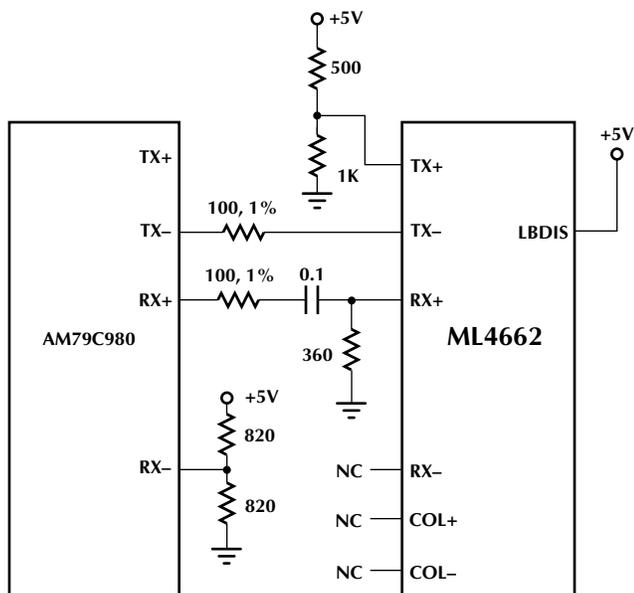

Figure 9. Interfacing the ML4662 to the AMD Repeater
- Link test pulse should not be sent to the ML4662. Since the link test pulses does not get generated on the TXD- of the IMR chip, this pin drives the TX- of the ML4662 as a single ended input, figure 9.